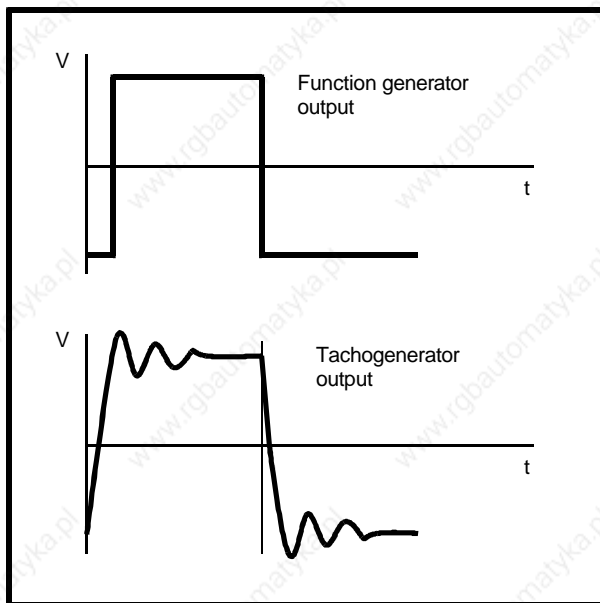

Figure A-1 Waveform resulting from proportional gain being too low
2. Check the waveform on the oscilloscope. If the waveform is similar to that shown in Figure A-1 the proportional gain is too low.